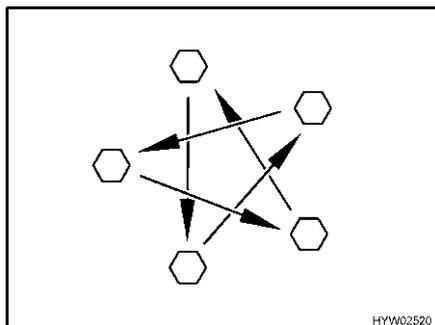

Fig. 277 Tighten the wheel nuts or wheel bolts cross-wise
- Check regularly that the wheel nuts or wheel bolts are firmly seated. Retighten the wheel nuts or wheel bolts of a changed wheel cross-wise (Fig. 277) after 50 km (30 miles). See section 13.5.2 for tightening torque.
- ▷ Tighten the wheel nuts or wheel bolts cross-wise (Fig. 277).